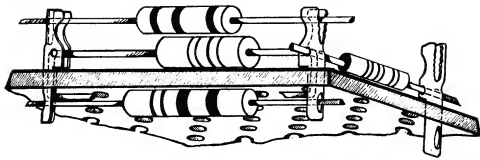

FIG. 1
2. Compactly Designed - Yet Holds Up To Six Leads: The T28 looks neat; yet, using upper and lower portions, as many as six leads may be connected to it in the three possible directions. See Fig. 1. Notice the serrations in the main slot which grip small component leads, including transistor leads.